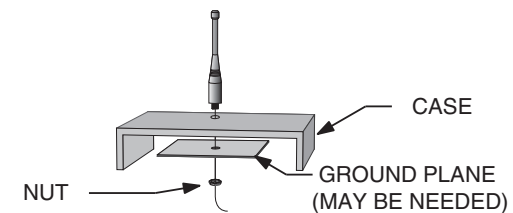

Figure 35: Remote Ground Plane
6. In some applications, it is advantageous to place the module and antenna away from the main equipment (Figure 35). This can avoid interference problems and allows the antenna to be oriented for optimum performance. Always use 50Ω coax, like RG-174, for the remote feed.